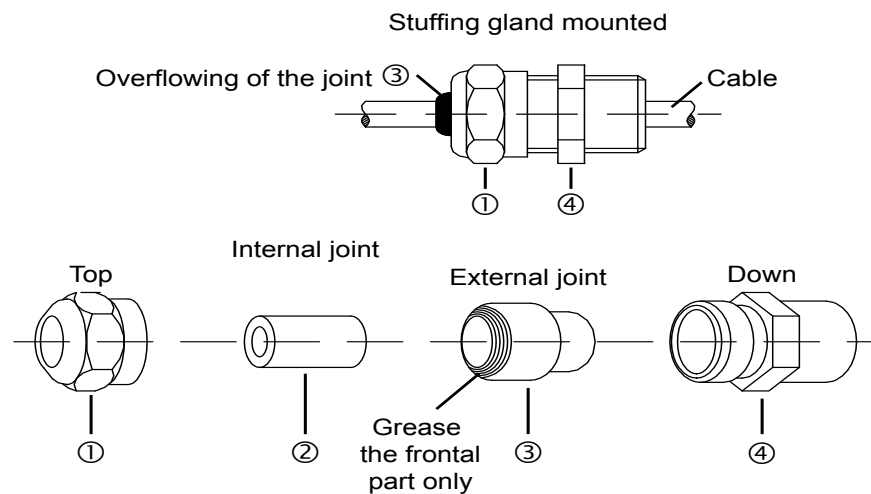

Figure 2-6 Stuffed gland (Overview and separated)
3. Pass the cables into the stuffing gland by proceeding as follows (*see Figure 2-6*):
- a. Unscrew element ① Counterclockwise. Element ④ must not be removed from the housing.
- b. Remove joints ② and ③ from element ①. These two elements allow the stuffing gland to adapt to various diameters of cable. Element ② Can be removed from element ③ by simply pushing it outwards.
- c. Pass the cables through elements ①, ② (if used), ③ and ④.
- d. Reassemble the elements of the stuffing gland and, before replacing element ①, lubricate the seal ③ with silicone as indicated in *Figure 2-6*. Tighten element ① so that it projects beyond joints ② and/or ③ to provide the degree of seal required.
- c. Pass the cables through elements ①, ② (if used), ③.
- f. Reassemble the elements of the stuffing gland (take care that the shield remains in place) and, before replacing element ①, lubricate the seal ③ with silicone as indicated in *Figure 2-6*. Tighten element ① so that it projects beyond joints ② and/or ③ to provide the degree of seal required.